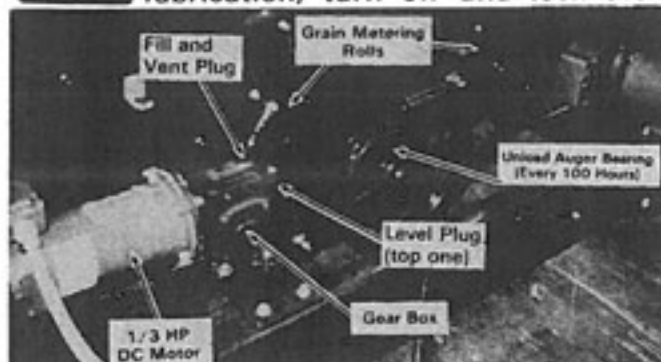

Figure 29
1. Lubricate the unloading auger front bearing and the front bearing on each grain metering roll, see Figure 29.
1. Remove the oil level plug (top one) on the end of the SCR drive gear box, see Figure 29. The oil level should be even with the bottom of the hole. If not, remove the vent plug on top of the gear box and add Mobil SHC 634 oil or equivalent until it just runs out. Install the level and vent plug.